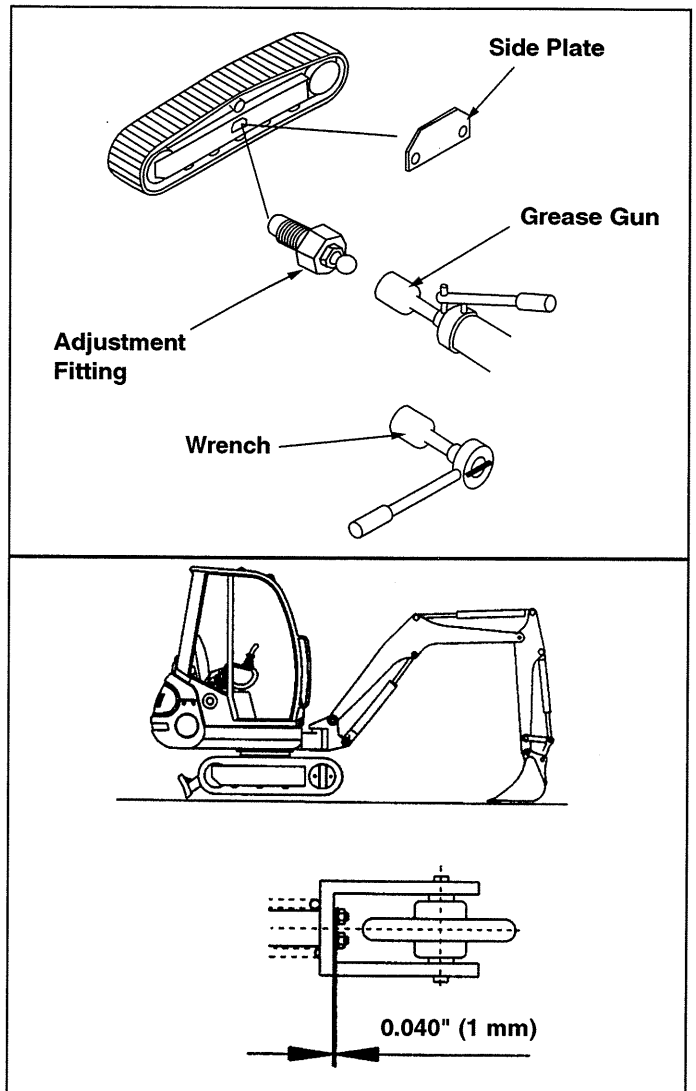

Figure 4-13. Track Adjustment
2. Use the bucket and dozer blade to lift the unit up until tracks are just clear of the ground (Figure 4-13). Turn off the engine.
3. Remove the side plate from the left track to expose the adjustment fitting (Figure 4-13).